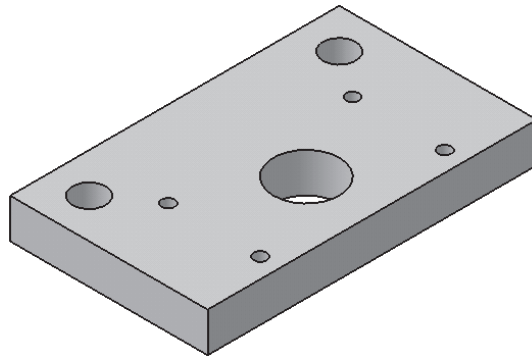

Figure 11-85 The final model of the Bottom Plate
- b. Create a new part inside the assembly. Modify its name and create features of the base component, refer to Figure 11-85. In this assembly, the Bottom Plate will be the base component.
2. Create the **Bottom Plate** using the part modeling tools. The final model of the Bottom Plate is shown in Figure 11-85.